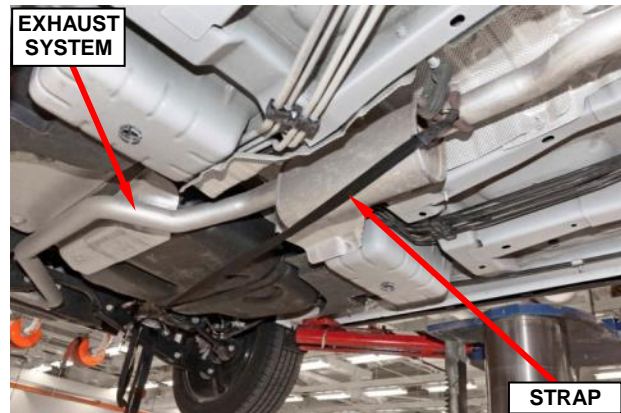

Figure 94 – Secure Exhaust Rearward
80. Pull the exhaust system rearward with a suitable strap (Figure 94).